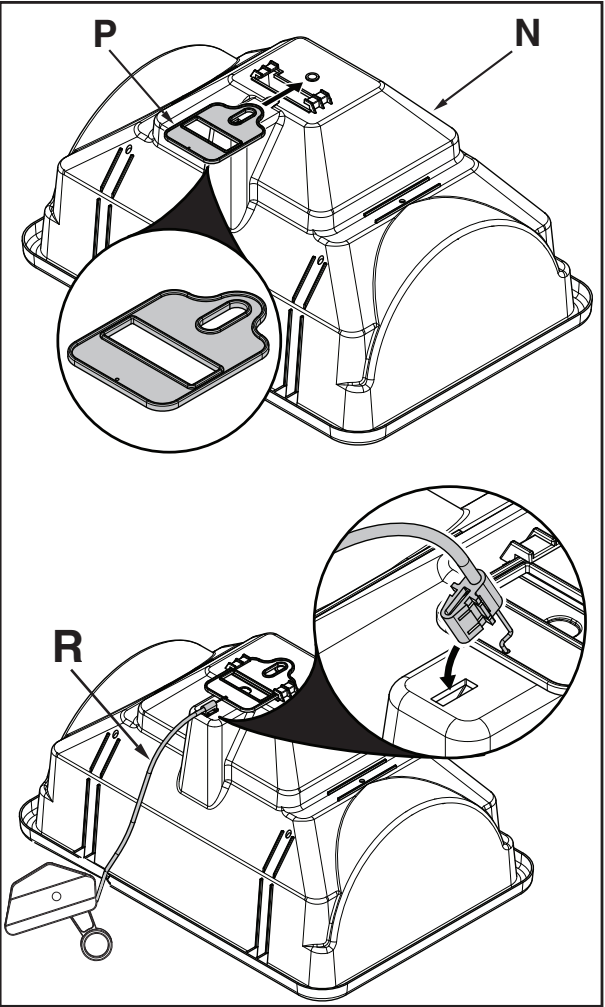

Figure 3
STEP 3 (SEE FIGURE 3): Install the flow plate (P) onto the bottom of the hopper (N) as shown below. Attach the control cable (R) to the hopper (N) by inserting the end of the cable through the hole in the flow plate (P) and pressing the plastic anchor firmly into the slot in the hopper until it locks into place.